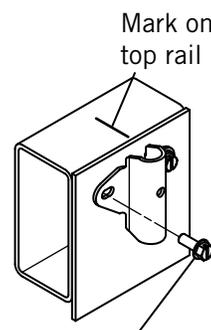

Figure 17-4
- 2a) **Figure 17-4.** Drill a pilot hole and attach with 3/8 x 1 type F HWH bolts.